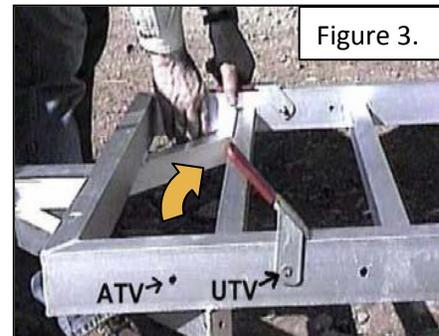

Figure 3.
4. The hanger brackets may be moved depending on the type of vehicle you are using to stow the cart on. The hanger bracket holes closest to the front of the cart are for smaller ATVs. The next set behind them are for larger UTVs. *(Note; the hanger brackets must be placed in the correct set of holes for the towing vehicle, or the cart will not stow properly and could result in equipment damage or personal injury. See Figure 3, page 6)*
After removing the pins, raise the hanger brackets so that they are open and ready to hook on to the back of your vehicle (Figure 3). Then, walk to the rear of the cart and raise the back of the frame to your waist and place in lap. Next, grasp the wheel guards and lift up while walking toward the rear of the vehicle. Now, raise the front of the cart frame and hook the hanger brackets on the rear of the vehicle. Secure the cart to the vehicle with fasteners, (ropes, straps, etc.) when transporting the cart and vehicle in a pickup truck or trailer, additional fasteners, (ropes, straps, etc.) will be needed to secure the cart to the vehicle.
**\*IMPORTANT:** Make sure the hanger brackets are in the correct set of holes for the towing vehicle you are using to stow the cart on. (See step 4 on page 5 and Figure 3)